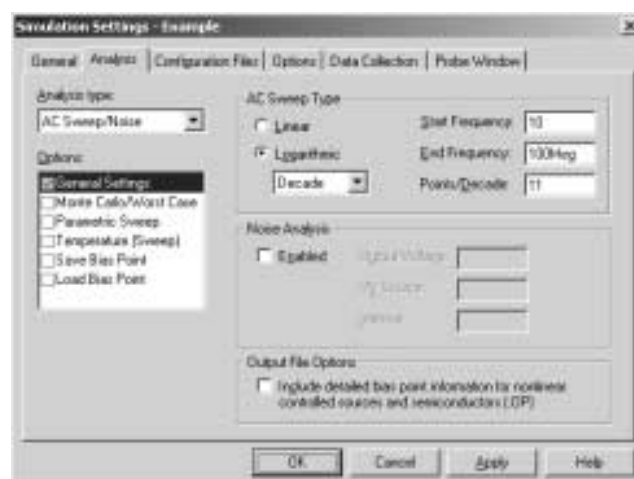

Figure 2-18 AC sweep and noise analysis simulation settings.
- 4 From the Analysis type list, select AC Sweep/Noise and enter the settings shown in Figure 2-18.